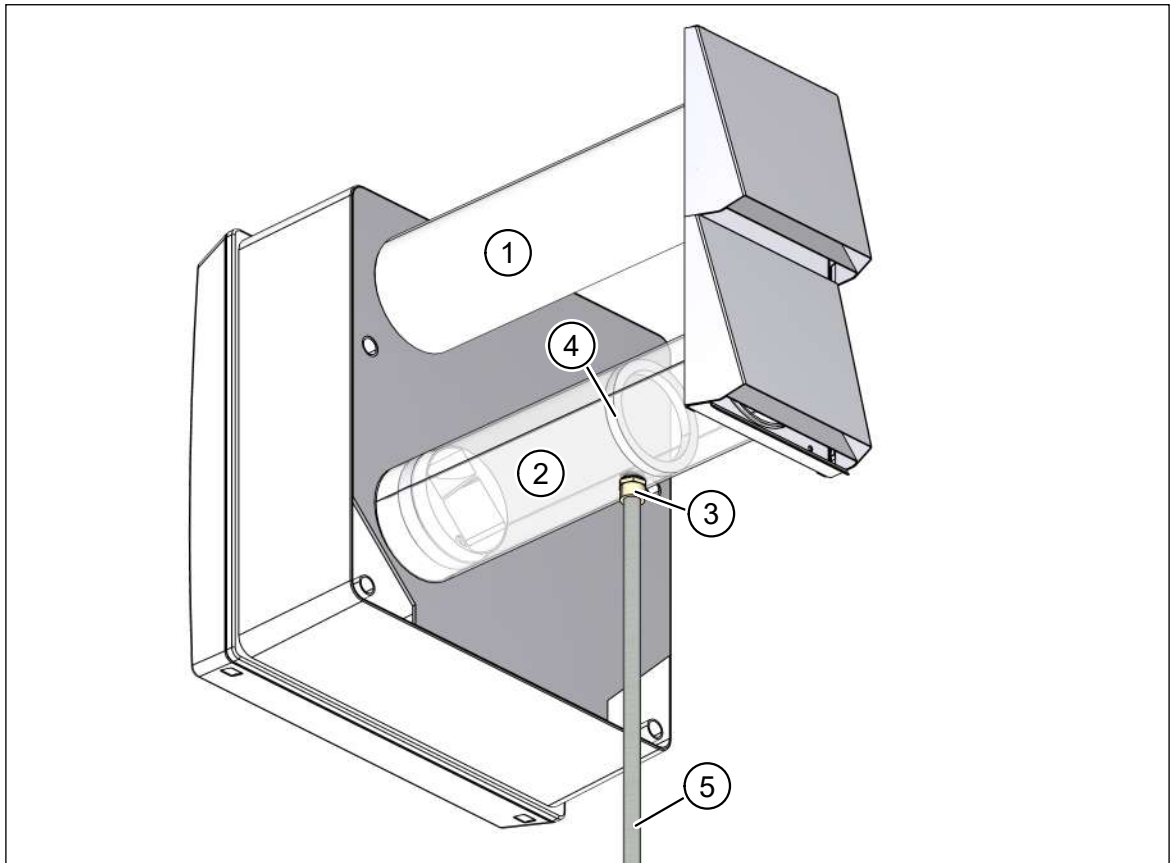

Fig. 27: Condensate drain on the exhaust air pipe
- Outdoor air pipe, DN 100, 0.5 m (item 1 in Fig. 27)
- Exhaust air pipe, DN 100, 0.5 m (item 2 in Fig. 27), with 1/2" male thread connection (item 3 in Fig. 27) and barrier (item 4 in Fig. 27) for retaining the condensate.
- In cold regions, protect the condensate drain pipe (item 5 in Fig. 27) against frost, e.g. by running it behind the facade insulation.